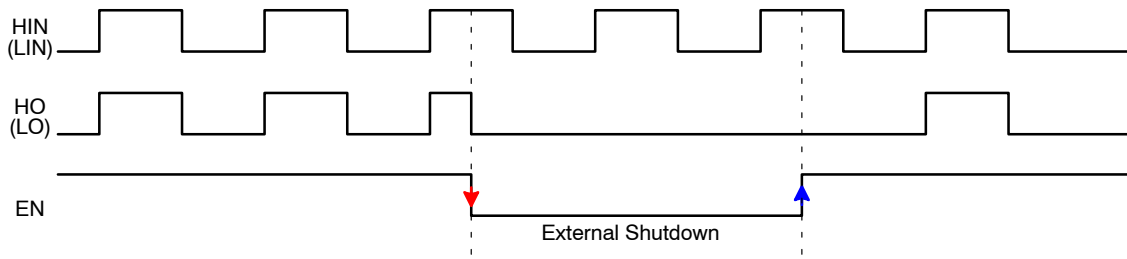

Figure 27. Timing Chart of Enable Function
Enable (EN) is internally pulled low to SGND so the driver is always defaulted to a disabled output status. Similar to HIN and LIN, EN is a Schmitt trigger TTL compatible input. Pulling the EN pin above 2.5 V maximum, enables the outputs, placing the NCP51810 into an active ready state. Due to the nature of high-speed switching associated with GaN power stages, and for improved noise immunity, it is recommended to connect the EN pin to VDD through a 1 k $\Omega$  (or less) pull-up resistor. For applications where the EN pin is actively controlled, the EN pin can be driven direct but should be bypassed with a 10 nF decoupling capacitor. As shown in Figure 27, if EN is pulled low during normal operation, the driver outputs are immediately disabled, even terminating an active HIN or LIN pulse mid-cycle during the on-time. When EN is toggled high, during normal operation, a cycle-by-cycle, edge-triggered logic function is employed to prevent shortened, erroneous control pulses from being processed by the output. This behavior is highlighted in Figure 27, where EN transitions high at the same time the HIN (or LIN) input pulse is high. In this way, the NCP51810 is intelligent by waiting until the next rising edge to process the full input signal to the output driver stage.